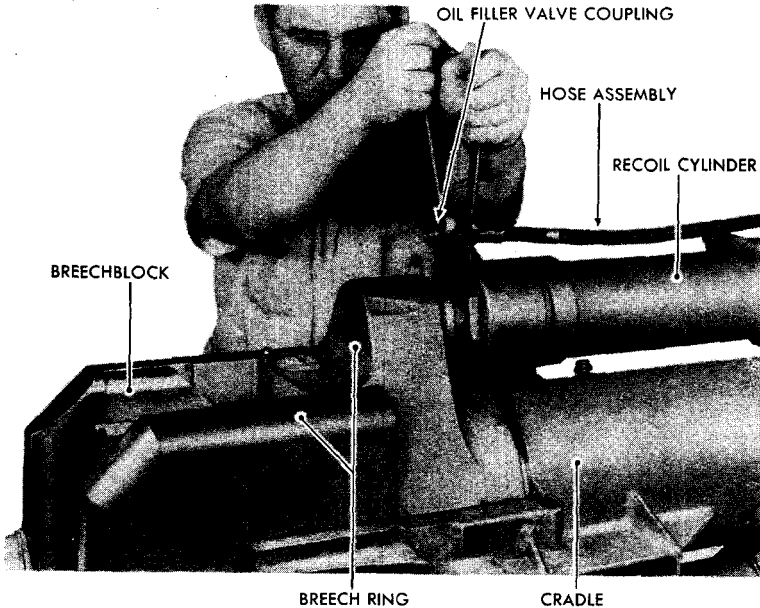

Figure 68 – Disconnecting Coupling
b. Remove Oil Filler Valve Coupling. Remove five round-head screws and five washers that secure support flange of coupling to supporting bracket (fig. 66). Hold coupling while removing hose assembly (fig. 68). Then lift coupling from bracket.